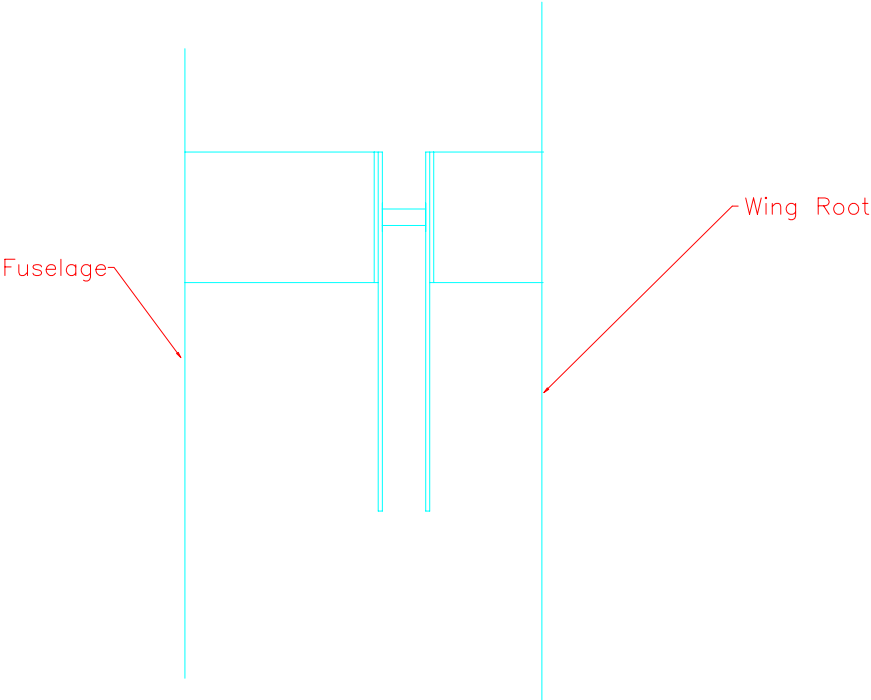

Figure 15.8.7
- 7) Make two right and two left control horn assemblies (CC-43&EL-31), the same way you did in the wing assembly section. Use the two CC-43s you set aside earlier in the wing assembly section to make the matching left and right assembly that will bolt to the wing control horn later. Figure 15.8.7.
- Figure 15.8.7.